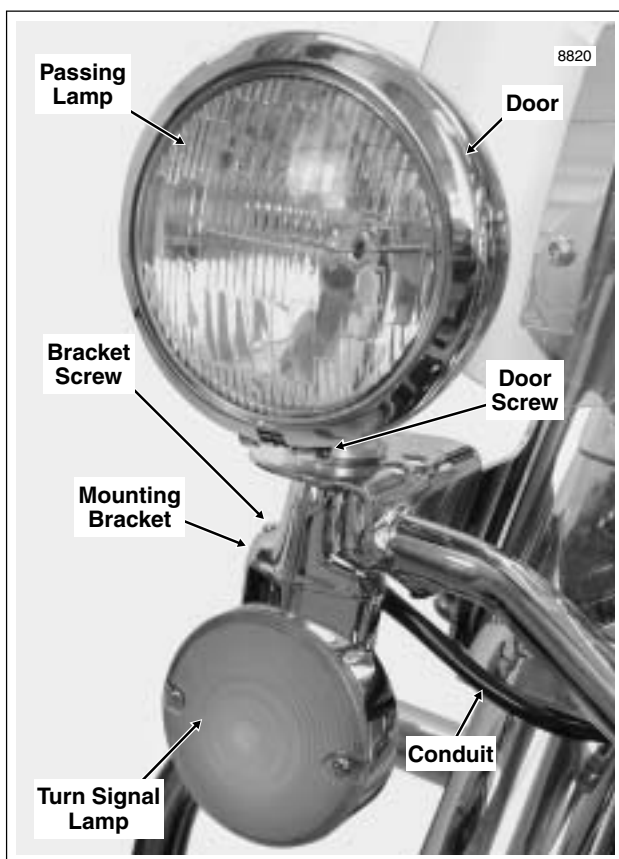

Figure 8-33. Passing Lamp and Turn Signal
1. Using a long shank ball end socket (Snap-on® FABL5), remove two screws to release turn signal lamp from mounting bracket. See Figure 8-33. Use hole in passing lamp bracket to access inboard screw.
1. Loosen passing lamp door screw as required to pull lamp door from lip of lamp housing. See Figure 8-33.
4. Using a long shank ball end socket (Snap-on® FABL5), remove two screws to release turn signal lamp from mounting bracket. See Figure 8-33. Use holes in passing lamp bracket to access inboard screw.